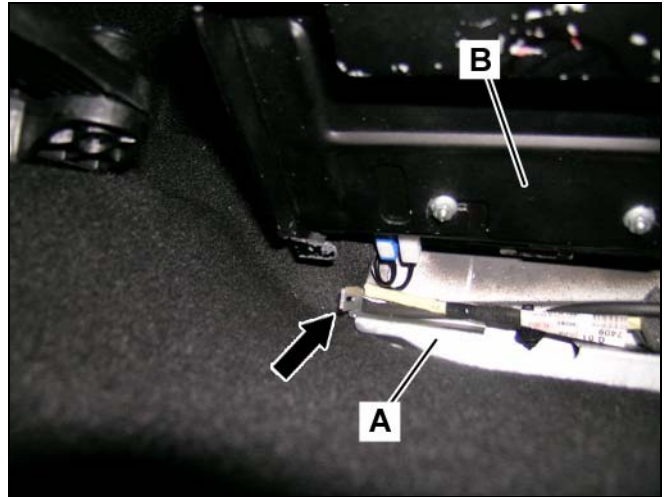

Figure 27
5. Carefully push the SDARS bracket to the upright position and insert the protruding pin of the bracket into the latch (Arrow, Figure 27).